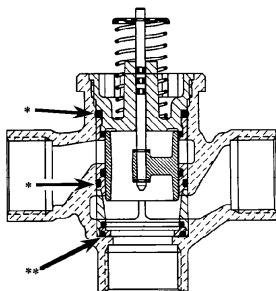

Figure 6
- Clean the valve surfaces marked * and ** in Figure 6 to ensure the new cartridge O-rings seal at these points. Use care to avoid damage to these surfaces (** for 3-way valves only).